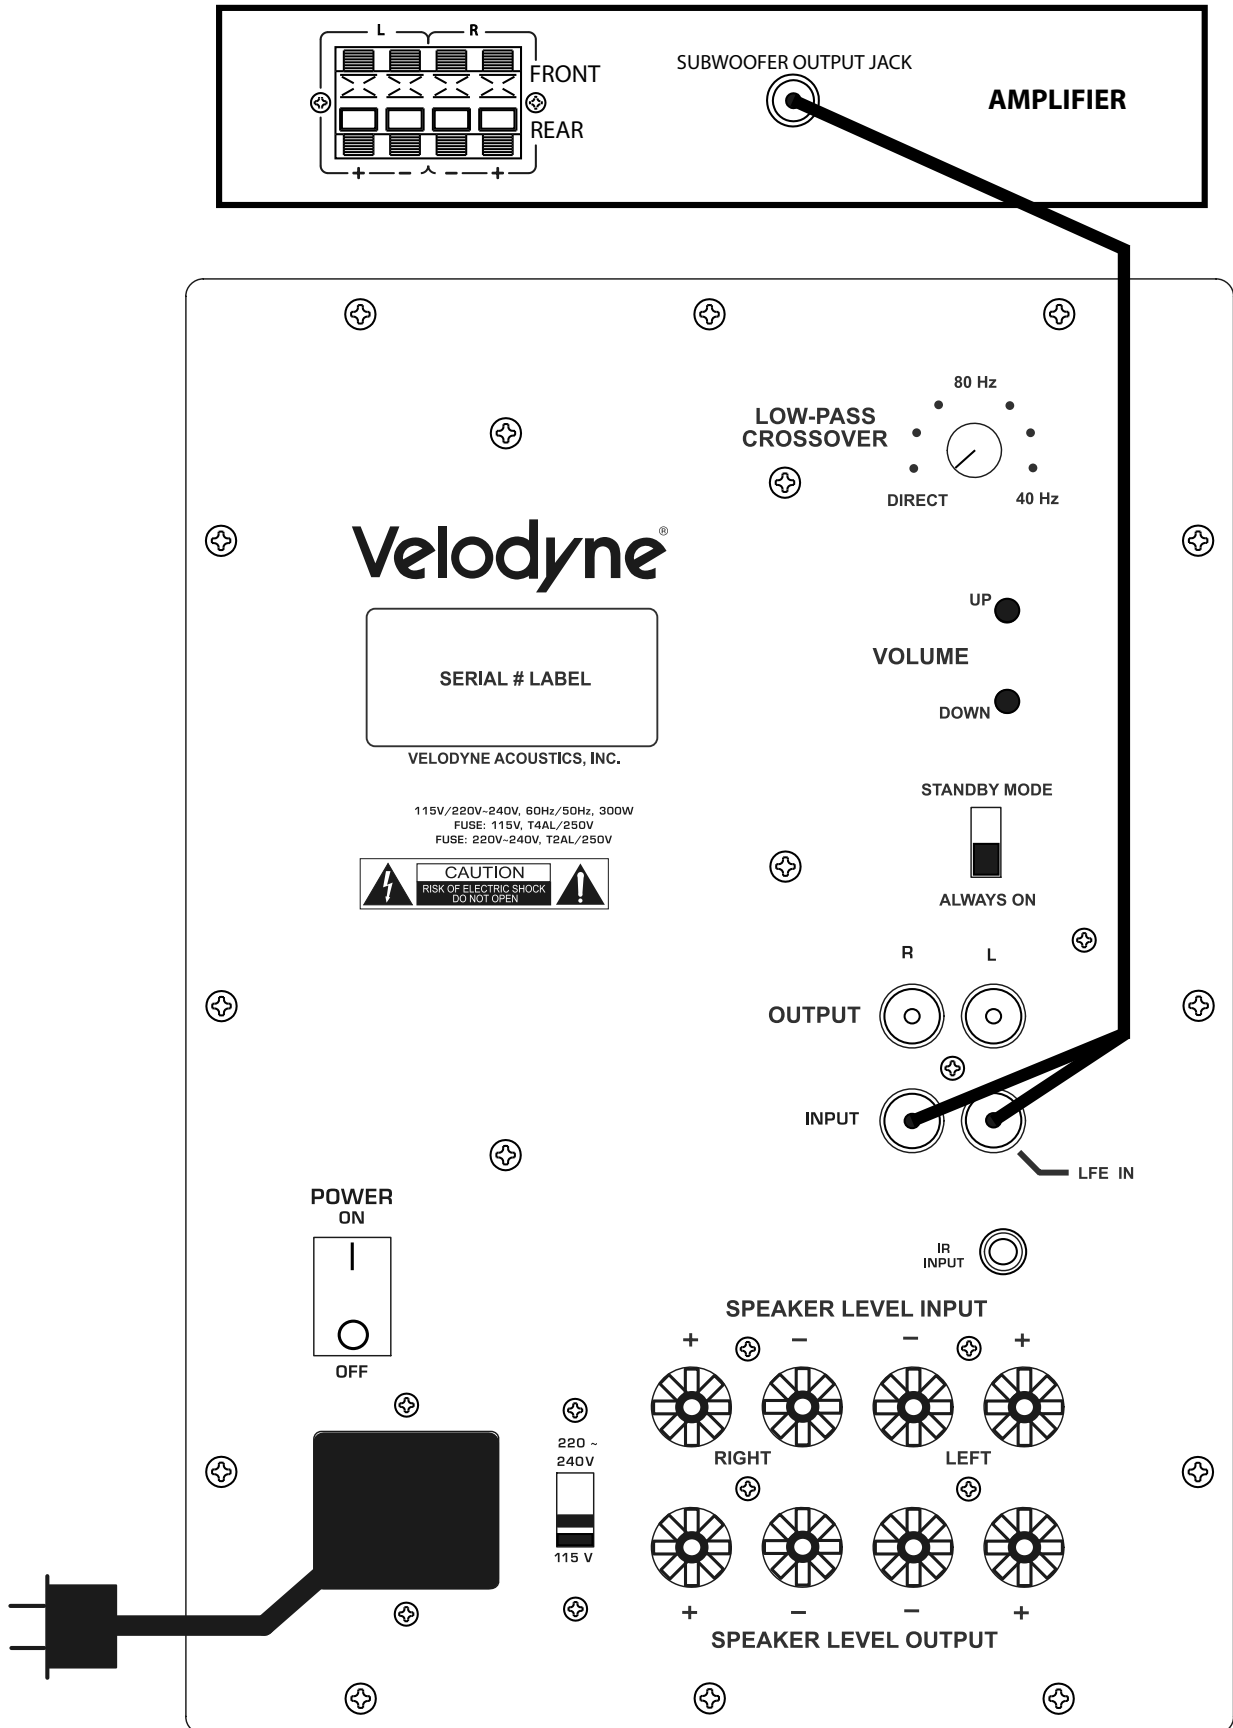
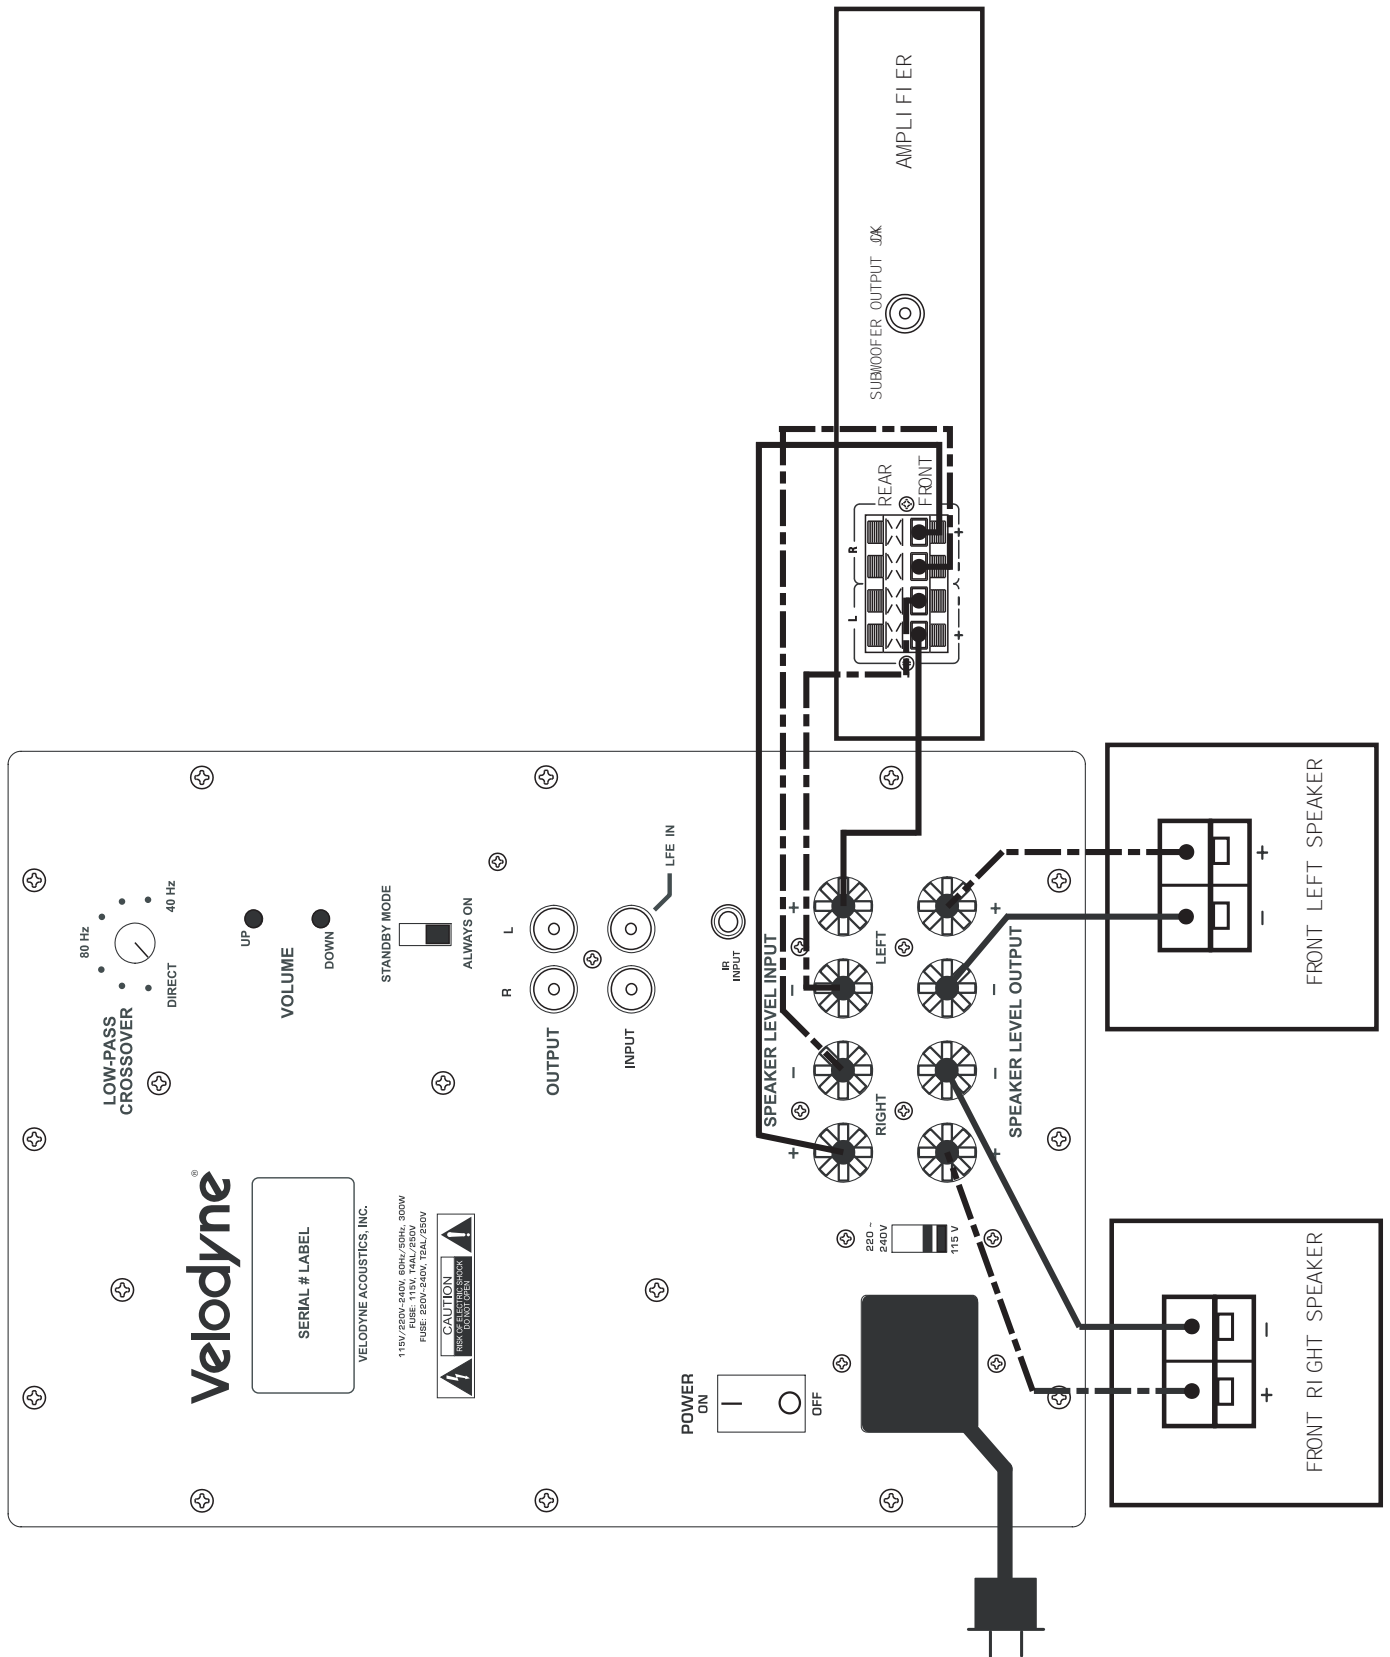

Figure 4. Line-Level Subwoofer Connection Diagram.
Figure 5. Speaker-Level Subwoofer Connection Diagram.
- 1) If using line level jacks, BOTH THE LEFT AND RIGHT INPUT SHOULD ALWAYS BE USED – never use just the left or just the right input. If using line level connections from a preamp or signal processor, use both Left and Right inputs from your preprocessor or preamp and connect them to the Left and Right inputs on your subwoofer. (See figure 4 on page 11.)
- 2) If using a receiver with LFE out, be sure the LFE channel is sending adequate signal to the subwoofer. The subwoofer's default volume setting is 30 on a 1-80 scale (roughly 1/3 volume). Adjust the LFE channel on your receiver or processor to achieve the desired bass output. See your receiver or processor's owner's manual for more information. (See figure 5 on page 12.)
(Refer to Figure 4 Line-Level Subwoofer Connection Diagram and Figure 5 Speaker-Level Subwoofer Connection Diagram, pages 11 and 12 for connection diagrams.)